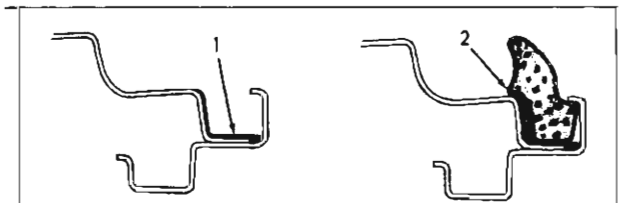

Fig. 14-9 Cross Section of Rear Compartment Gutter and Weatherstrip
2. Apply (brush) a continuous coat of weatherstrip cement (neoprene type) along the lower and outer surfaces of the rear compartment gutter (1 in Fig. 14-9) around full length of gutter.
5. Using a pressure type applicator, apply weatherstrip cement (neoprene type) between weatherstrip and outer surface of gutter (2 in Fig. 14-9) completely around gutter to assure a watertight seal.